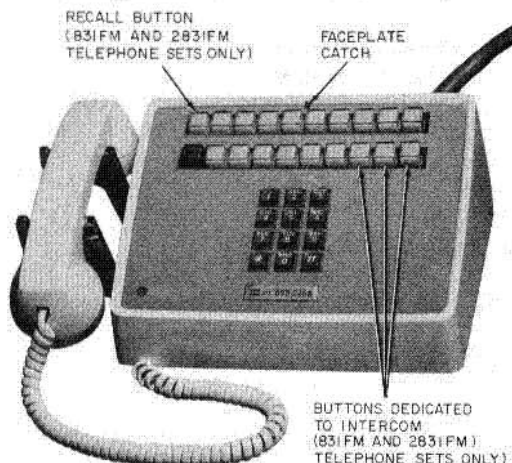

Fig. 1—2831DM (MD) or 2831FM Telephone Set
2.01 The 831- (Rotary dial) and 2831- (TOUCH-TONE® dial, Fig. 1) type telephone sets are obtainable as modular or complete desk-type, 20-button, key telephone sets equipped to provide standard key system features. Refer to Table A for available colors.